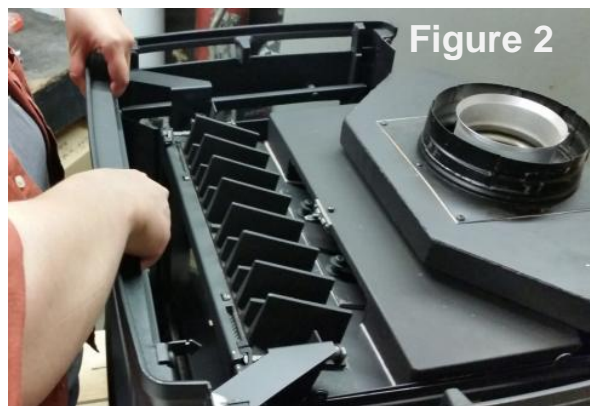

Figure 4
4. Gently release pressure on the glass/frame and allow to tilt outward and lift up and off of the stove (Figure 4).